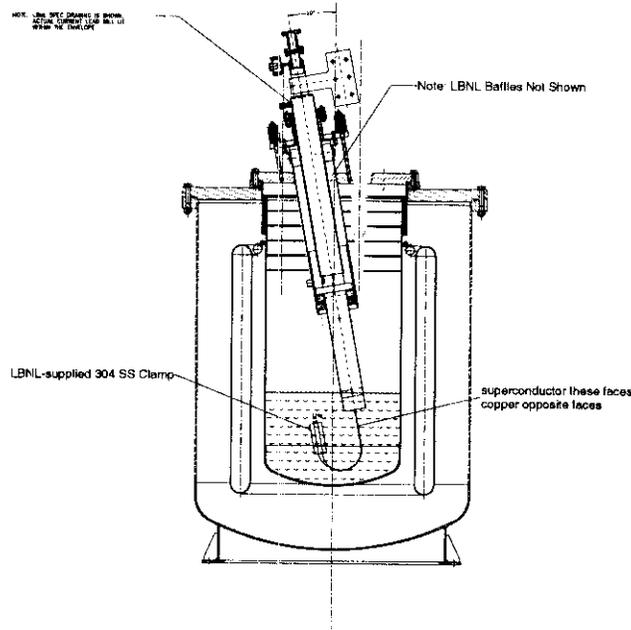

Figure 4.3a Side View of Lead in Cryostat with the LTS cables connected.
- 4.3 Make connection to LTS pigtailed. The joint is a mechanical connection with a stainless steel clamp block (supplied by LBNL) and indium foil between the cables to ensure good electrical contact. Torque each of the clamp block fasteners to **10 ft-lbf**. Figure 4.3a shows a rendition of